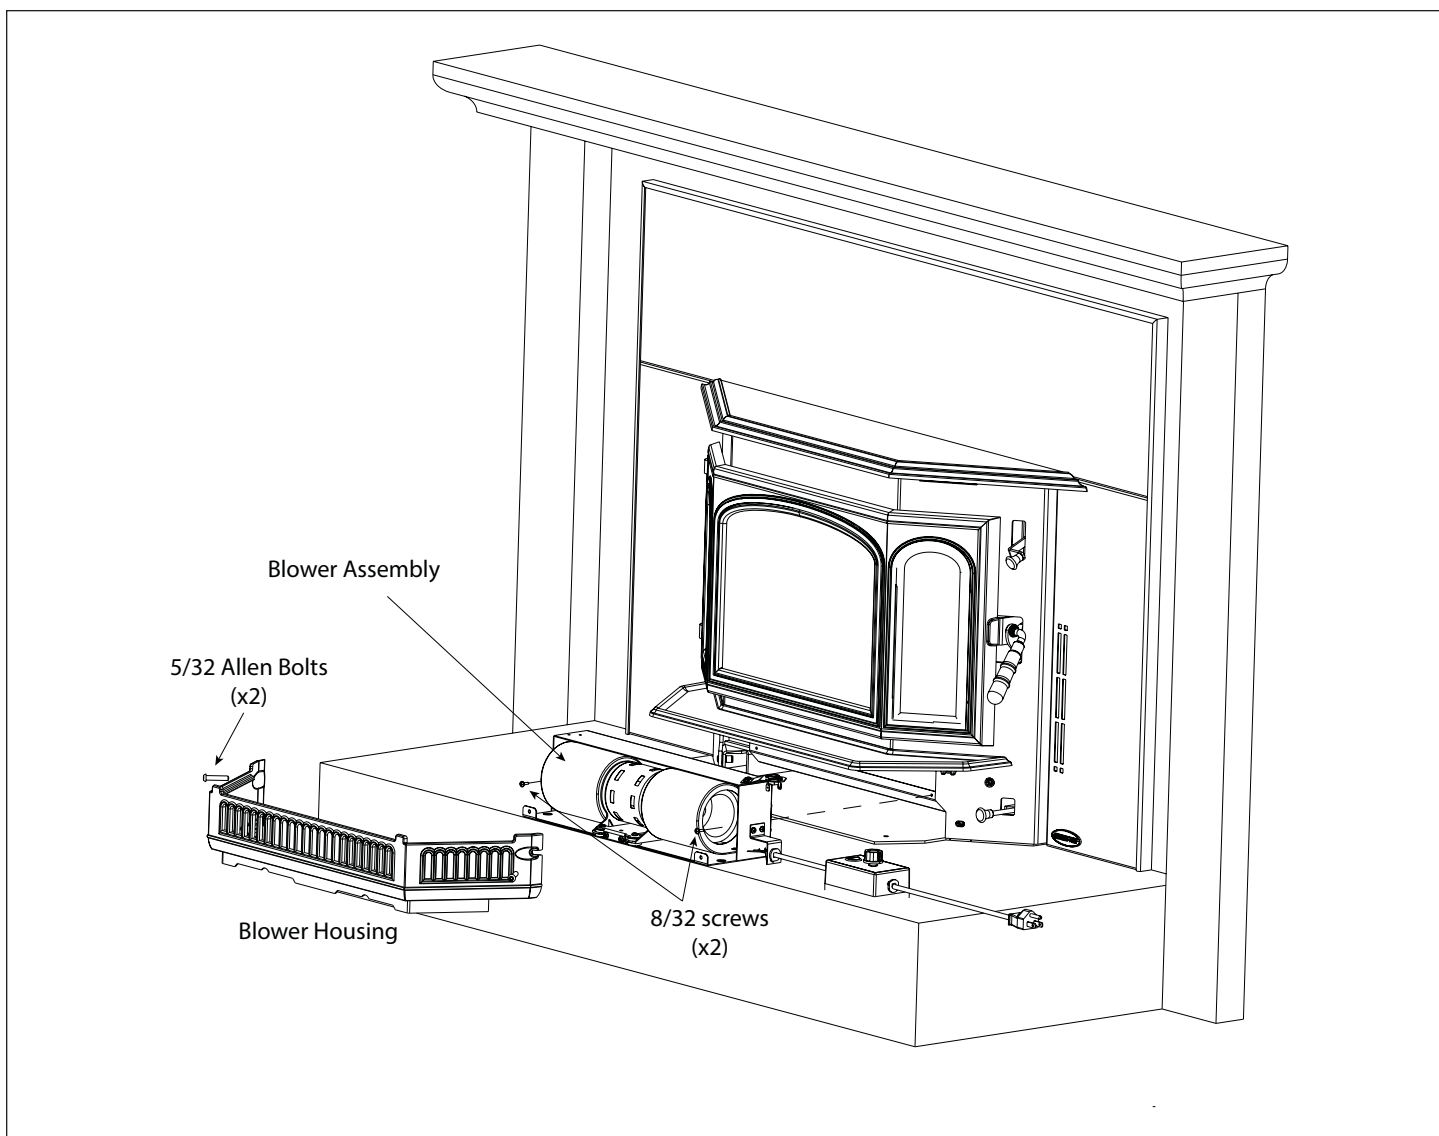

Figure 21.1
2. Remove Blower assembly from appliance by removing two 8/32 phillips head screws located under ashlip. **Figure 21.1.**